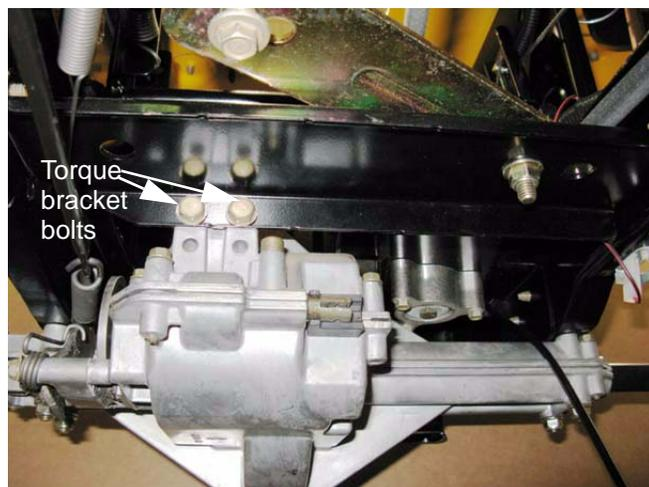

Figure 6.7
6. Transaxle mounting: See Figure 6.7.